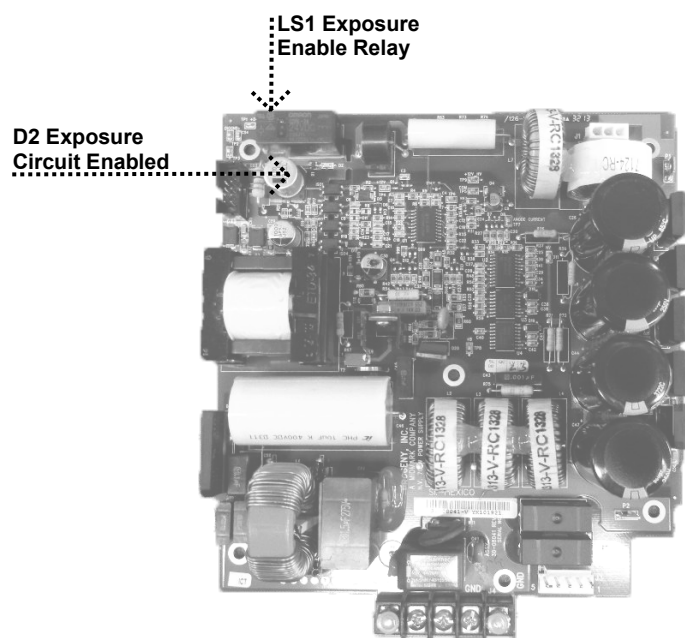

Figure 65
2. If the Operator Display indicator sounds, but the Logic Board indicator does not activate, observe LED D2 on the Power Supply Board, and listen for the relay LS1 to activate on this same board (*Figure 65*). LED D2 should illuminate during the exposure request. If not, inspect the condition of the ribbon cable between the Power Supply and the Logic Boards. If the ribbon cable is acceptable, replace the Logic Board.